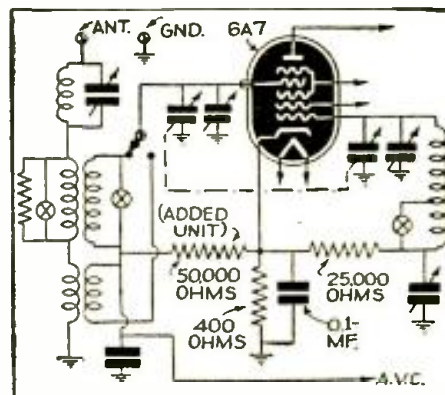

Fig. 5. Resistor added, strengthens signal response.
**Philco Model 45.** The owner of this receiver complained of weak reception. A complete checking of all voltages of the set showed no great deviation. All the condensers and coils test correct. The only place where there was a slight difference between the correct voltage and the actual voltage of the tube was on the control-grid of the type 6A7 detector-oscillator tube. This was only about 0.3-volt off. At first I suspected the A.V.C. circuit but found that that circuit was operating correctly. A test oscillator, connected to the control-grid of the 6A7 tube with the grid clip removed, gave a normal signal output in the loudspeaker. While checking the circuit connected to the grid of the 6A7 tube I placed the test prods of my voltmeter between the cathode of this tube and the opposite end of the antenna coil from the grid connection of the tube. Immediately the set functioned properly. I discovered that the total resistance of the meter was between 50,000 and 60,000 ohms. So, placing a resistor of 50,000 ohms value between these 2 points brought back reception to normal (Fig. 5). This is only a temporary repair and can be used on all similar circuits.